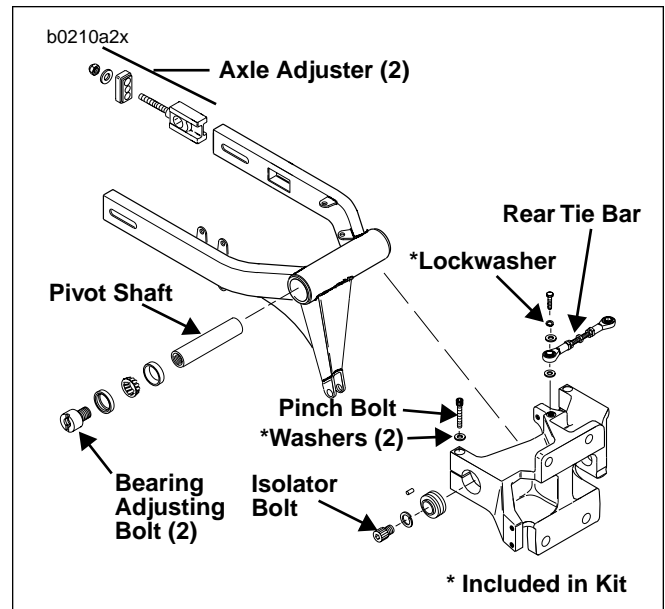

Figure 2. 1996 S1 Swingarm and Mount Block
14. See Figure 2 or 3. Remove rear tie bar bolt, lockwasher and washers from mount block. Discard lockwasher.
15. See Figure 2 or 3. Remove right side isolator bolt and washer from swingarm bearing adjustment bolt.
For 1996 S1 Models (See Figures 2 and 6):
24. See Figure 2 or 3. Remove (slide out) axle adjusters from old swingarm.
3. See Figure 2 or 3. Assemble swingarm.
- a. See Figure 2. Clean internal threads on both ends of pivot shaft and apply anti-seize to threads. Insert pivot shaft into swing arm.
9. See Figure 2 or 3. Install isolator bolt and washer through rubber isolator and into bearing adjustment bolt. Tighten isolator bolt to 100-110 ft-lbs (135.6-149.1 Nm).
15. See Figure 2 or 3. Install isolator bolt and washer through rubber isolator and into bearing adjustment bolt. Tighten isolator bolt to 100-110 ft-lbs (135.6-149.1 Nm).